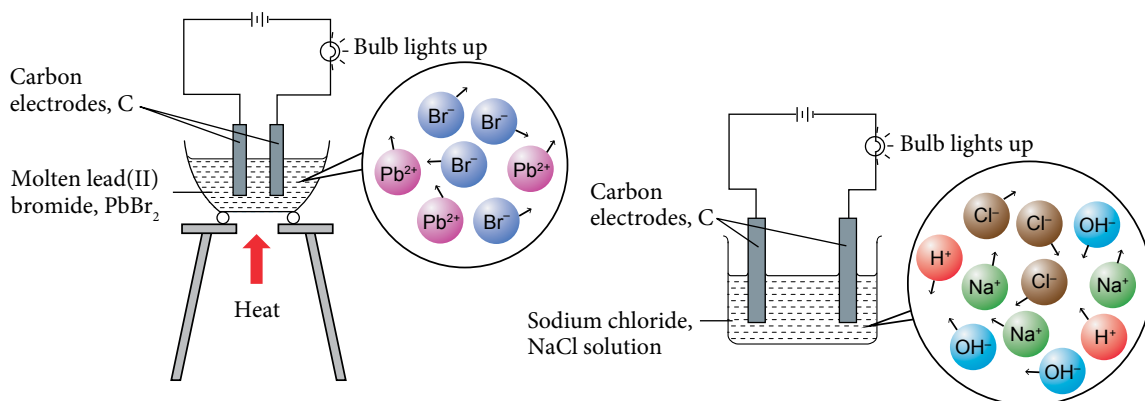

Figure 1.21 Electrolytes can conduct electricity due to the presence of ions that move freely
- Lead(II) bromide, PbBr_2 and sodium chloride, NaCl are examples of electrolytes and are ionic compounds while acetamide, CH_3CONH_2 and glucose, $\text{C}_6\text{H}_{12}\text{O}_6$ are examples of non-electrolytes and are covalent compounds.
- Molten lead(II) bromide, PbBr_2 and sodium chloride, NaCl solution can conduct electricity because there are ions that move freely. These ions carry charges. Figure 1.21 shows the electrolytes in the molten state and an aqueous solution containing ions that move freely.